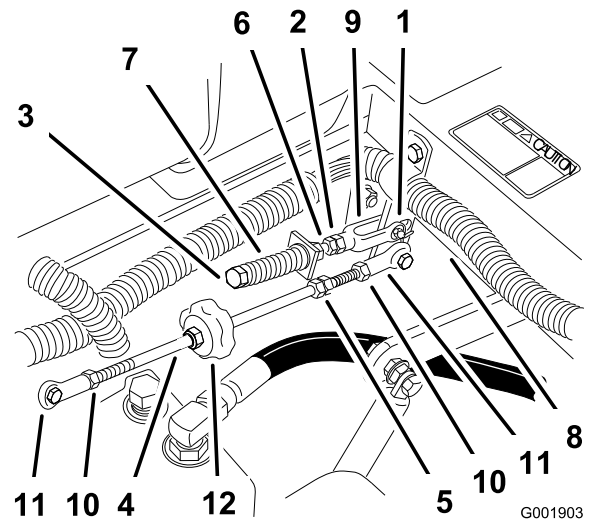

Figure 73
9. Apply slight rearward pressure on the motion control lever, turn the head of the adjustment bolt in the appropriate direction until the control lever is centered in the neutral lock position (Figure 73).
10. Tighten the nut and jam nut (Figure 73).
8. If adjustment is needed, loosen the nut and jam nut against the yoke (Figure 73).